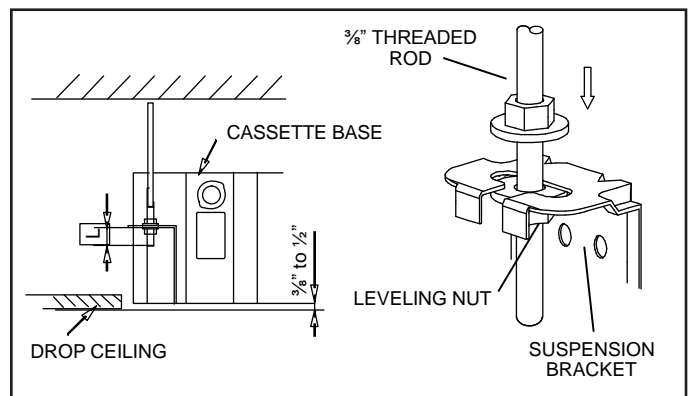

Figure 2. Suspension Hardware
5. Slide one nut and one washer onto each threaded rod. Use electrical tape to keep the washer from falling off. Position the nuts slightly above the final resting place of the four suspension brackets. See Figure 2.